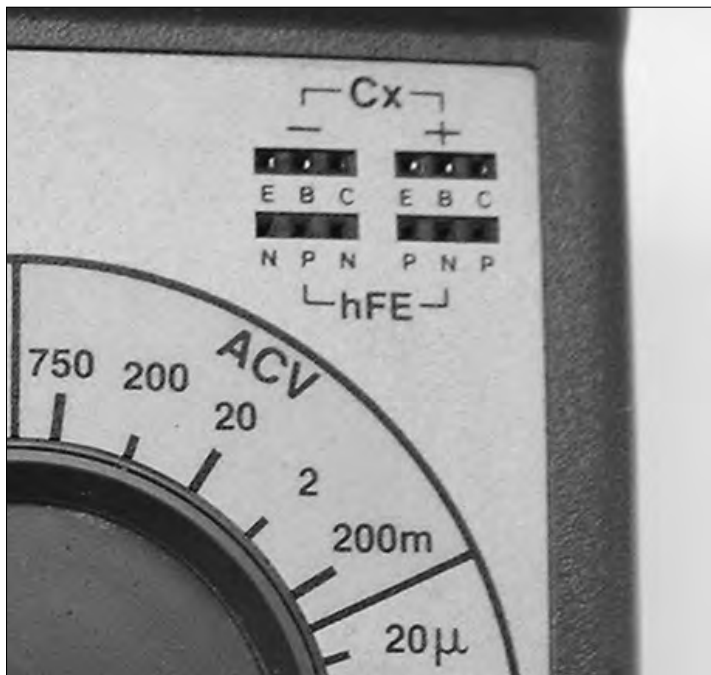

Figure 9-4:
- ✔ **Test lead inputs:** At a minimum, the multimeter has a + (positive) and – (negative or common) lead input. You insert the test leads into these inputs. Some meters have additional inputs for high current testing (usually marked A, for amperage) and special sockets for testing transistors and capacitors, as you can see in Figure 9-4. *Note:* Many small, pocket multimeters have the leads permanently attached.